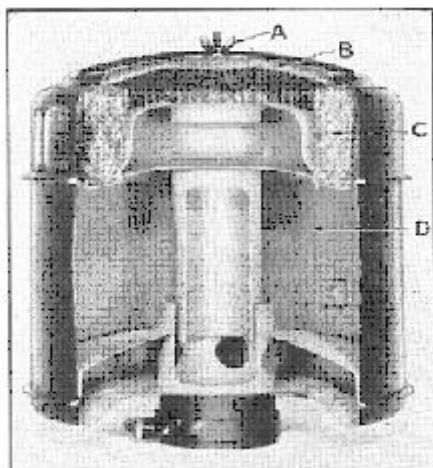

Figure 15
1. Remove wing nut (A), Figure 15.
2. Remove cover and pad (B).
3. Remove filter unit (C).
7. Reinstall cover and pad (B) with hard side of pad down.
8. Reinstall wing nut (A).